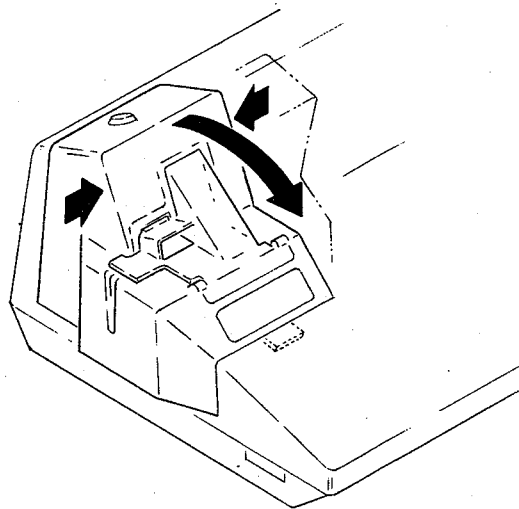

Fig. 12
- (1) For safety, unplug the ER-6750.
- (2) Remove the printer cover by holding its sides, lifting and rotating toward you. (See Fig.12.)